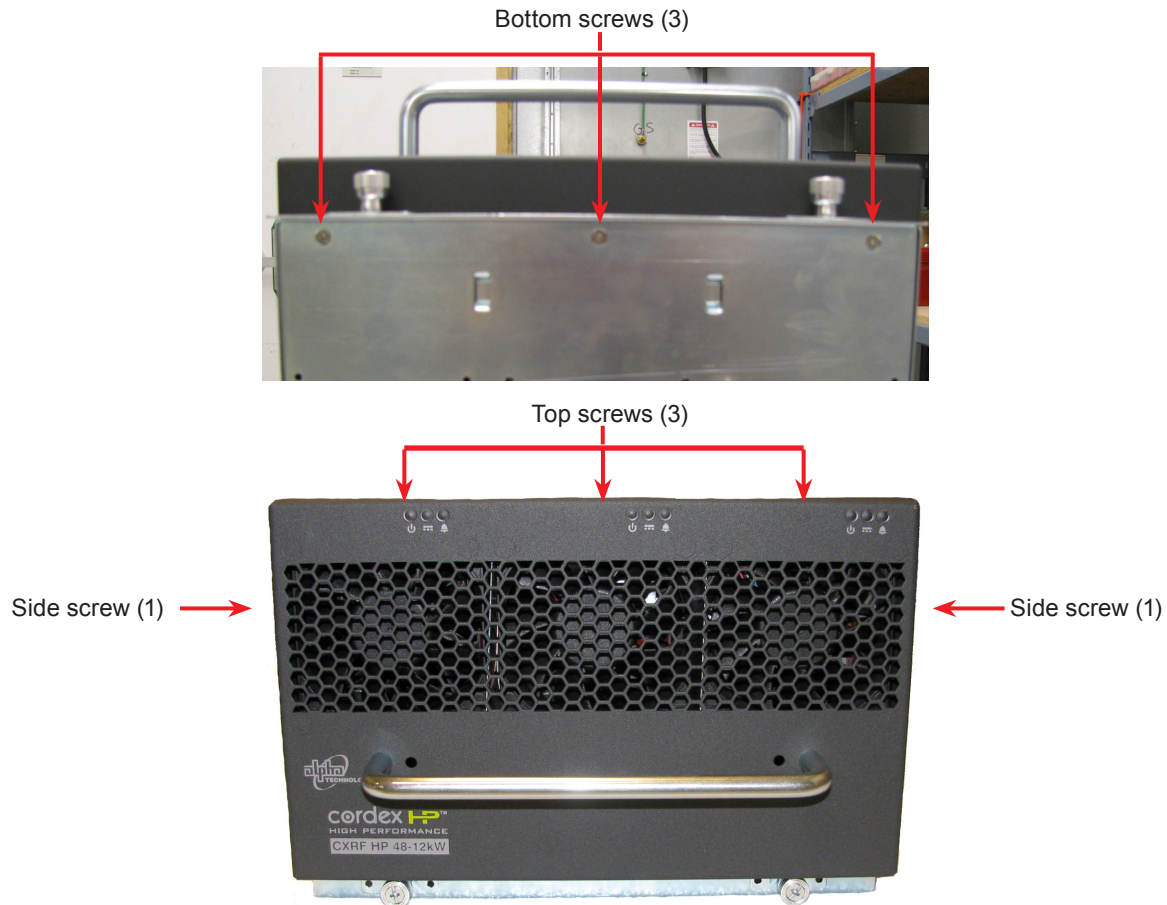

Figure 11 — Fan assembly - screw removal
2. Remove the eight screws shown in Figure 11